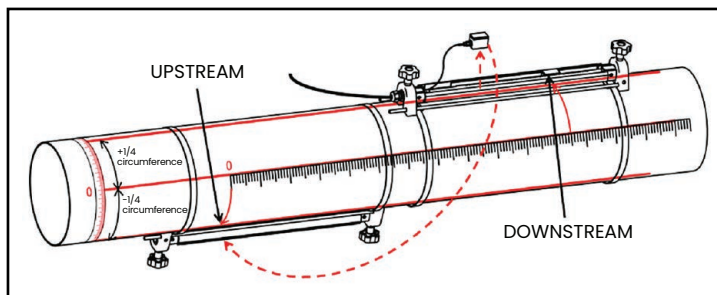

Figure 21: 1 Traverse installation for transducer spacing >320 mm
For a one traverse installation with a calculated transducer spacing of >320 mm for a 1 MHz or 0.5 MHz transducer, two clamp-on fixtures are installed on opposite sides of the pipe. To install this configuration, refer to figure 21 below and complete the following steps:
- b. Remove the upstream transducer from the first fixture (see figure 21 below). Disconnect the transducer cable and route the cable into the second fixture.